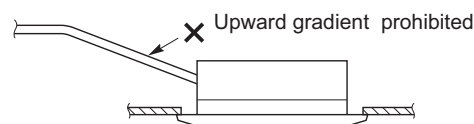

Fig. 2-172
- Do not install the pipe with an upward gradient from the connection port. This will cause the drain water to flow backward and leak when the unit is not operating. (Fig. 2-172)